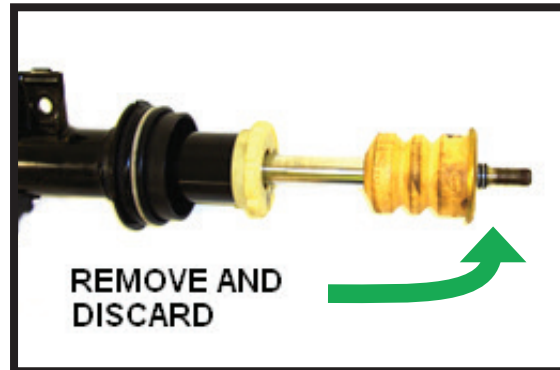

FIGURE 10
4. REMOVE AND DISCARD THE TWO (2) O-RINGS, TWO (2) BACK-UP RINGS, BUMP STOP AND GOLD WASHER FROM THE TOP OF THE SHOCK SHAFT. (FIGURE 10)